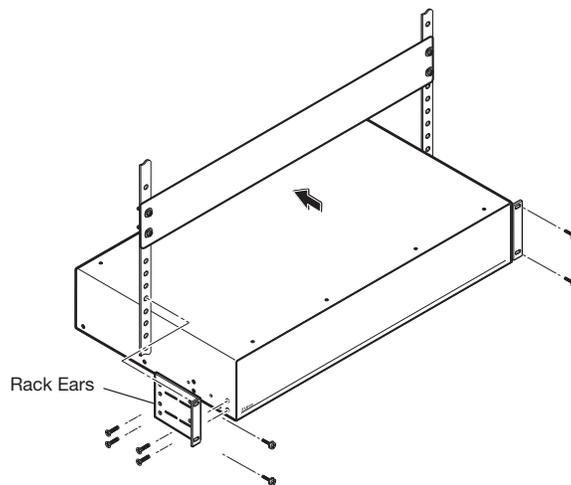

Figure 92. 2U Rack Mounting
1. On the www.extron.com, click the **Download** tab (see figure 92, ①).
2. Move the pointer to the **Firmware** link (②) in the Downloads column and click it.